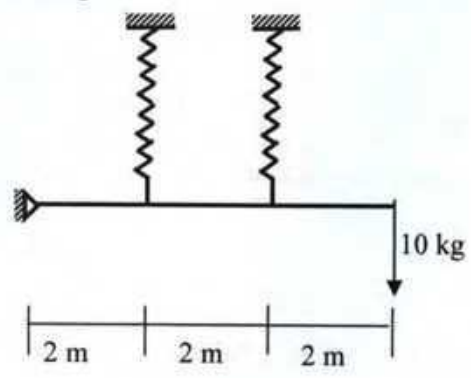

Fig.4
4. A rigid weightless bar hinged at one end is supported by two identical springs as shown in Fig.4. Compute the maximum shearing stress in the springs [Given: Both springs have coil diameter = 10 mm, number of coils = 20 , average spring diameter = 150 mm].